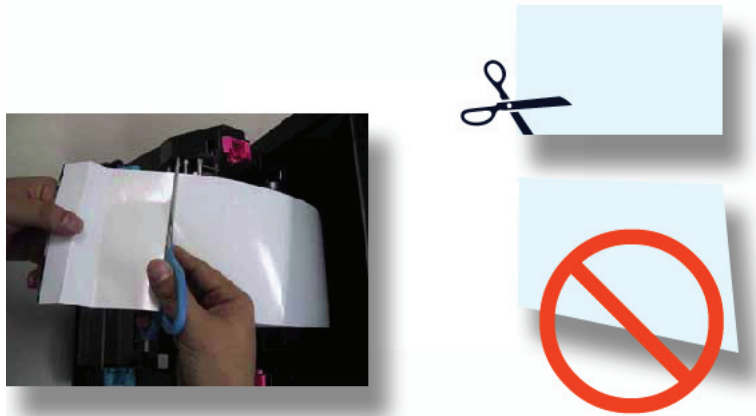

Figure 22. Cutting the Damaged End off the Roll
5. Cut the damaged end off the roll with a straight cut across the leading edge (see Figure 22).